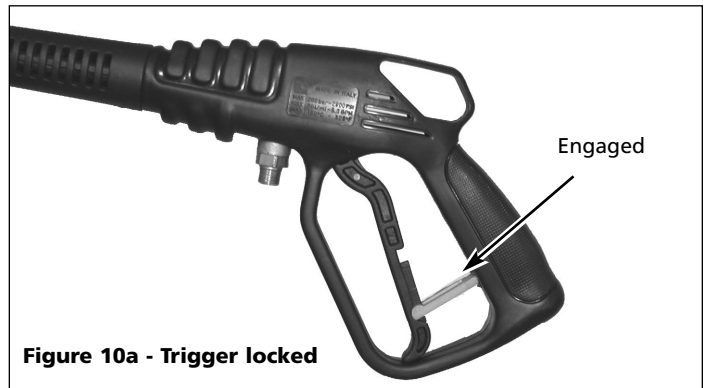

**Figure 9 - Insert spray tips into the rubber tip holder**
- 9. Install quick connect tips to tip holder and secure to the pressure washer handle. See Figure 9.